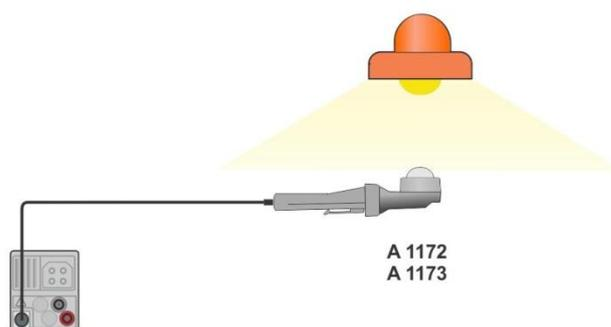

Figure 7.92: LUXmeter probe positioning
- › Take the position of LUXmeter probe, see **Figure 7.92**.